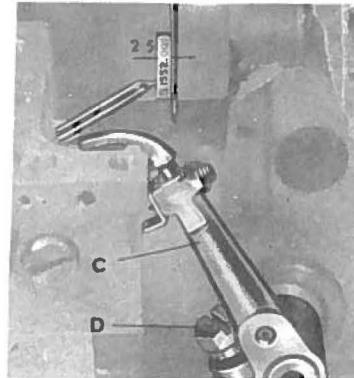

fig. 6
-When the primary looper has completed its stroke to the left and with the needle in its lowest position, the distance between the point of the looper to the needle is 1/64 inch (fig. 6)
-If adjustment is required, loosen screw D (fig.6) and move looper holder C (fig. 6) left or right to the proper setting.
-With primary looper set as shown in fig. 6 adjust looper holder C (fig.6) forward or backward on primary looper shaft so that looper passes the needle on its stroke to the right as close as possible above the center of the needle scarf, and on its stroke to the left, below the center of the needle scarf with no deflection to the needle.